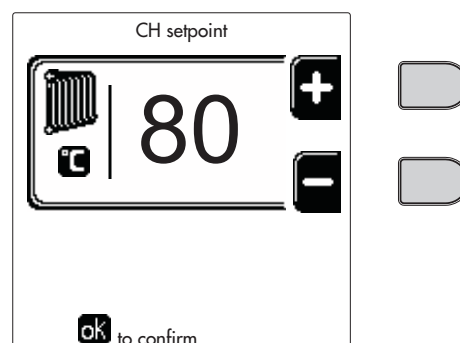
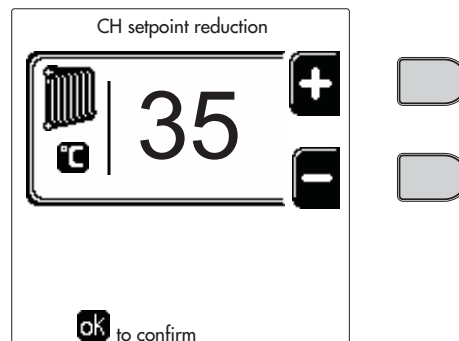
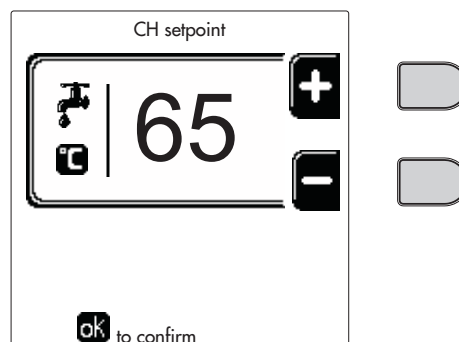
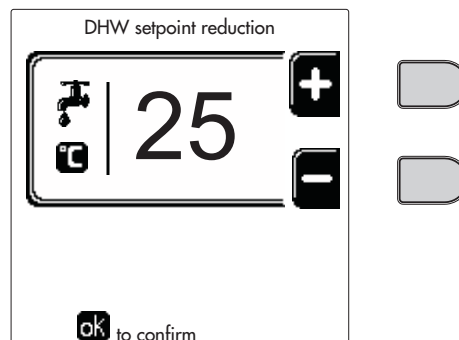

fig. 14
fig. 15
fig. 16
fig. 17
- **ON**. In case of a Heating/DHW request, the boiler works at the set Heating/DHW Adjustment Temperature (fig. 14/ fig. 16).
- **re**. In case of a Heating/DHW request, the boiler works at the Reduced Adjustment Temperature. The Reduced temperature is obtained by subtracting the Reduction Adjustment Temperature (fig. 15/fig. 17) value from the set Heating/DHW Adjustment Temperature (fig. 14/fig. 16).